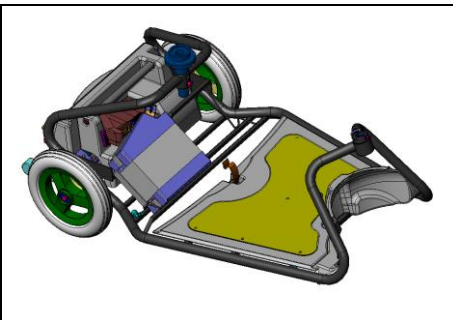

Figure 7 – Small Battery
2.3 Installation of Batteries (See Fig. 7)